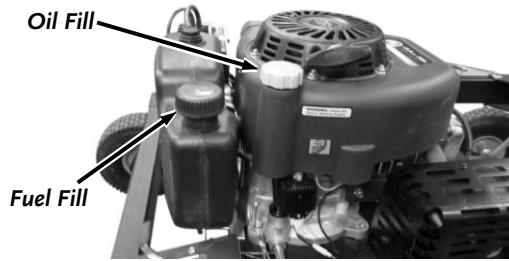

Figure 20a: DR 13.3 TQ Engine
- Place the machine on a level surface and remove the Oil Fill Cap/Dipstick (**Figure 20a: Mow Pro-44**) (**20b: Mow Pro-60**).
- Remove the Fuel Cap and fill the gas tank to within 1-1/2" below top of fill neck (to allow for fuel expansion) with fresh, unleaded gas (**Figure 20a: Mow Pro-44**) (**20b: Mow Pro-60**). Replace the Fuel Cap when finished.